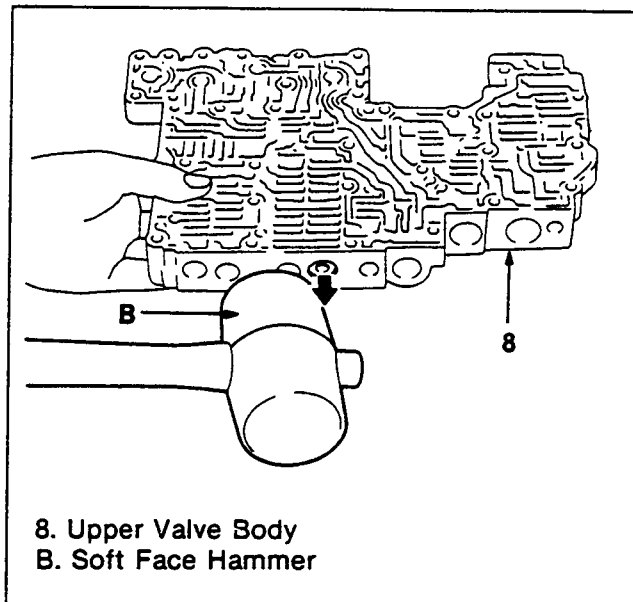

Figure 111. Upper Valve Body Inside Parts Removal
3. With the valve locating hole facing down, remove the inside parts. If valve cannot be removed easily, hold the valve hole facing down and tap around the valve body side slightly with a soft face hammer (figure 111).